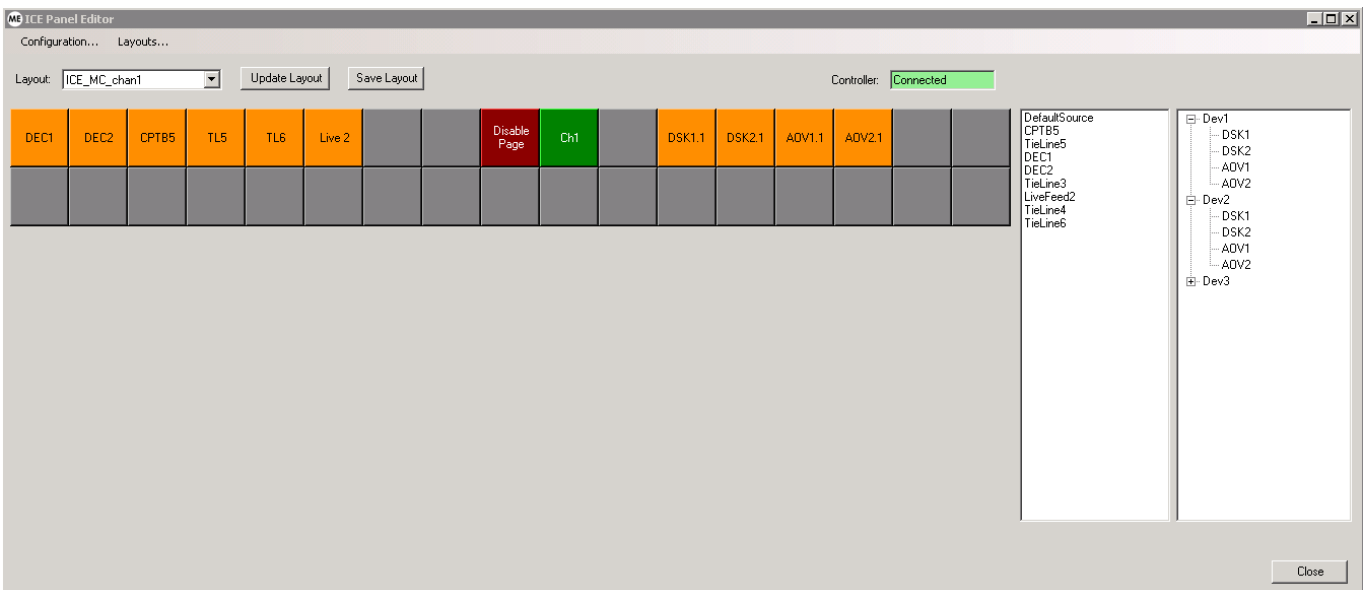

Figure 233 The ICE Panel Editor
4. The ICE Panel Editor window is displayed (Fig. 233, shown with a previously configured layout).